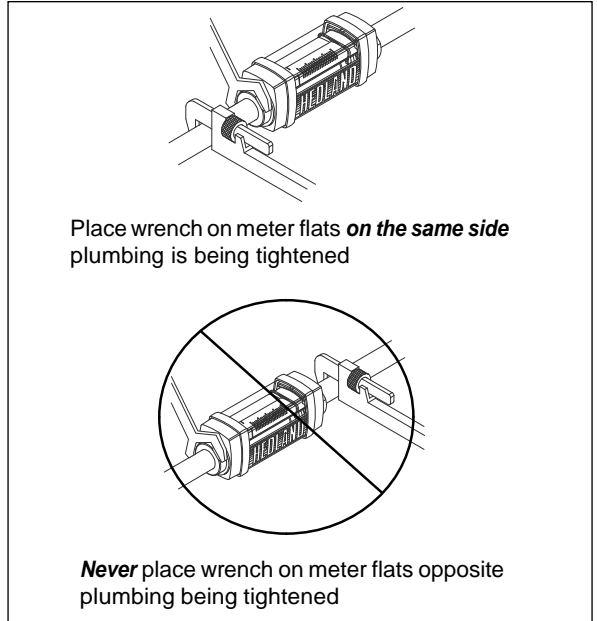

Figure 4. Installing Meter
2. Select a mounting location that is suitable for viewing and product service. To connect the flow meter into the piping system, place an open-ended wrench onto the flow meter wrench flats adjacent to the pipe connection being installed. DO NOT wrench on the opposite end of the flow meter or leakage may result. See **Figure 4**.